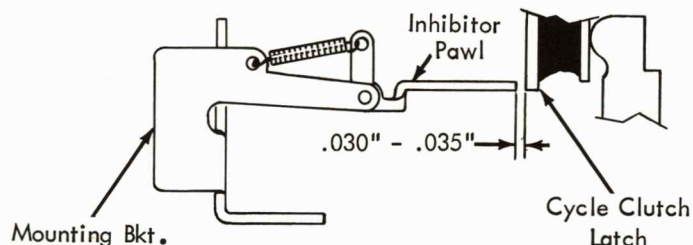

FIGURE 23. Inhibitor Pawl Mounting Bracket
- b. Position the inhibitor pawl mounting bracket front to rear for .030" to .035" between the front side of the cycle clutch latch and the inhibitor pawl (Fig. 23).